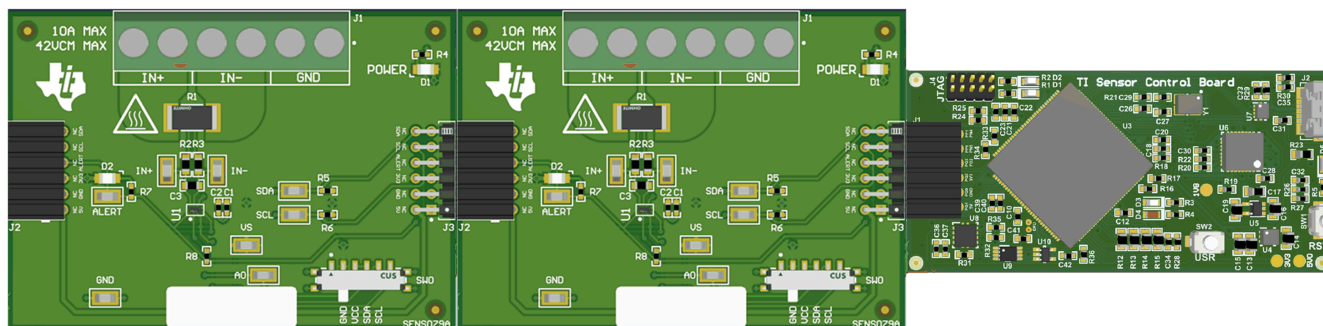

Figure 4-2. Multiple EVMs Connected to SCB Controller
- a. Refer to Figure 4-2 when connecting multiple EVMs of the same type together.
If using multiple EVMs, connect them as shown in Figure 4-2. Make sure to use a different chip address for each device. The GUI only supports one EVM/device type at a time.